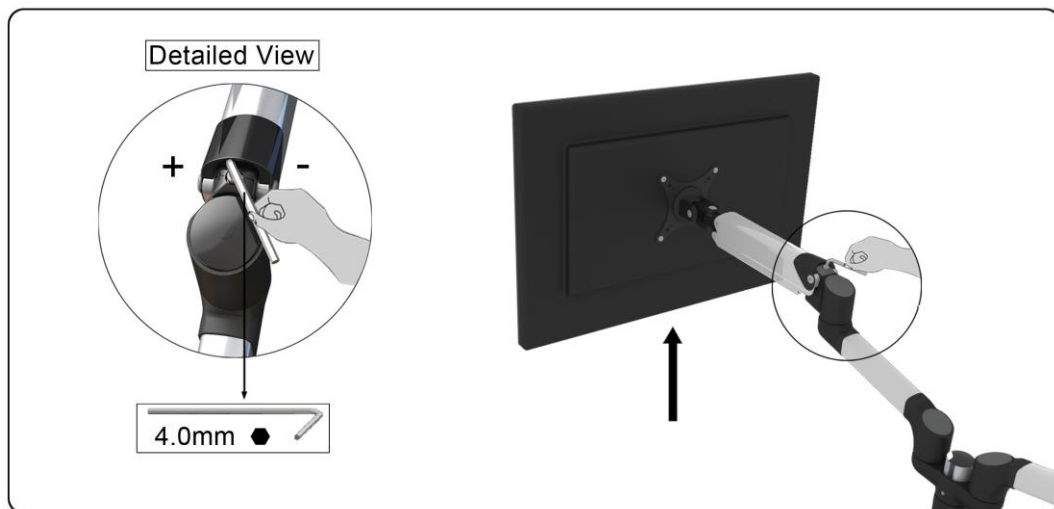

Figure 5-1
1. Depending on the weight of the monitors, the resistance on the gas spring arms may need to be adjusted. To make the necessary adjustments, loosen/tighten the tension screws located at the corners of the articulating arms using the provided 4mm Allen wrench (**See Figure 5-1**).